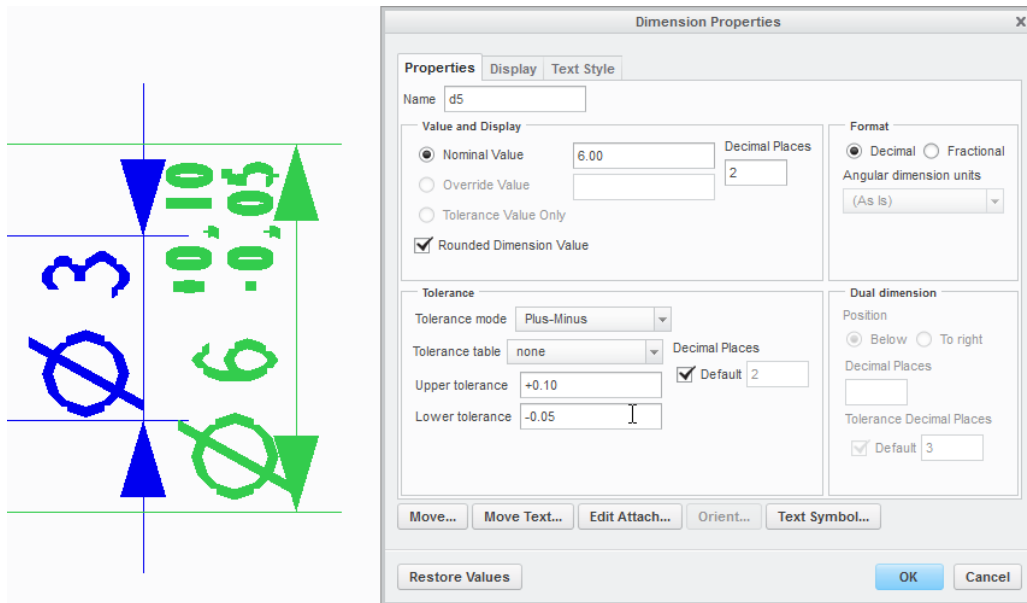

Figure 19: Tolerance mode changed to *Plus-Minus* and Tolerance table to *none*.
3. Type in the values below it (Figure 19).